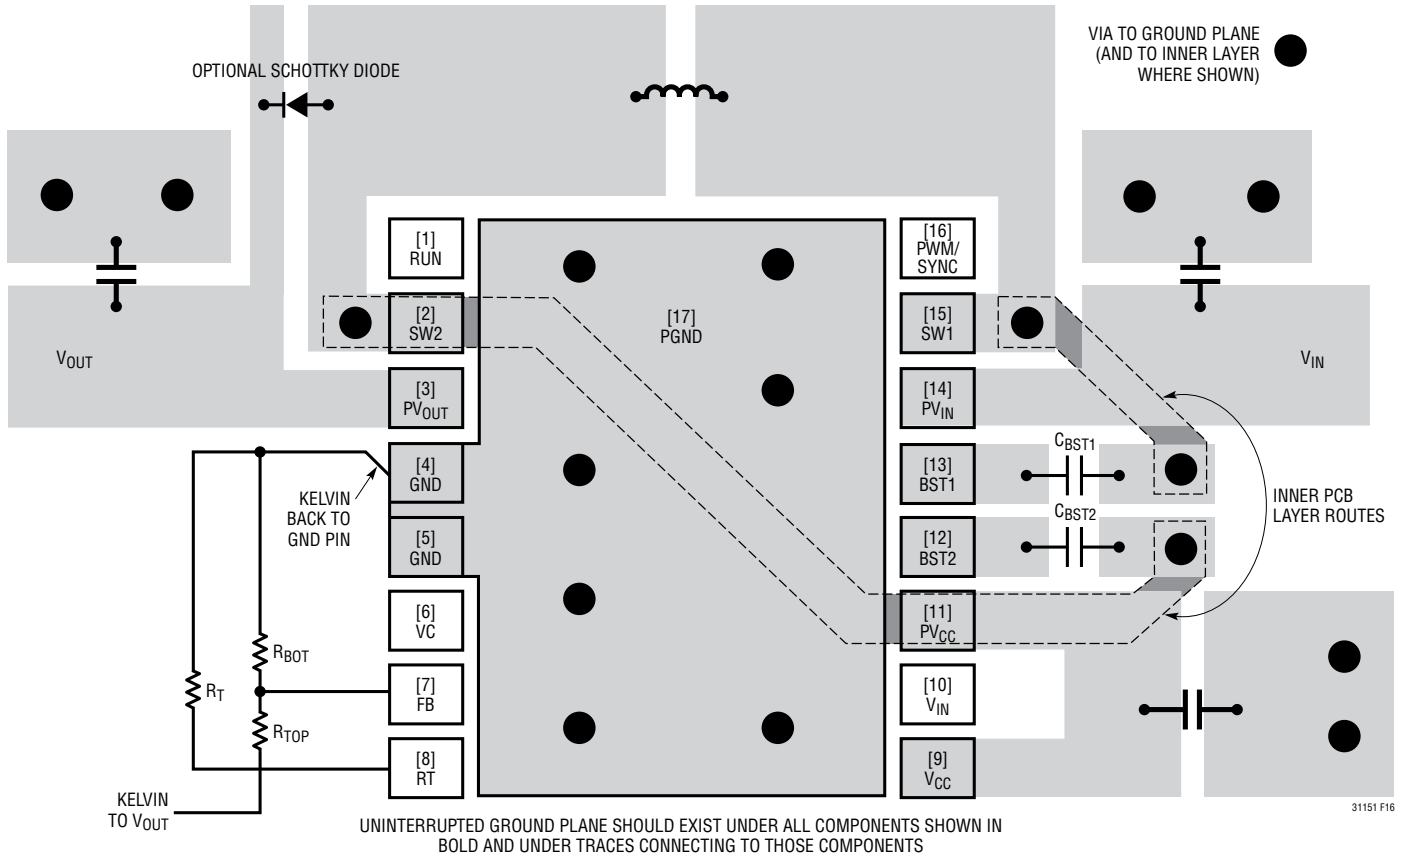

Figure 16. PCB Layout Recommended for the DHD Package
The LTC3115-1 buck-boost converter switches large currents at high frequencies. Special attention should be paid to the PC board layout to ensure a stable, noise-free and efficient application circuit. Figures 16 and 17 show a representative PCB layout for each package option to outline some of the primary considerations. A few key guidelines are provided below:
1. The parasitic inductance and resistance of all circulating high current paths should be minimized. This can be accomplished by keeping the routes to all bold components in Figures 16 and 17 as short and as wide as possible. Capacitor ground connections should via down to the ground plane by way of the shortest route possible. The bypass capacitors on PV_{IN} , PV_{OUT} and PV_{CC}/V_{CC} should be placed as close to the IC as possible and should have the shortest possible paths to ground.
5. To prevent large circulating currents in the ground plane from disrupting operation of the LTC3115-1, all small-signal grounds should return directly to GND by way of a dedicated Kelvin route. This includes the ground connection for the RT pin resistor, and the ground connection for the feedback network as shown in Figures 16 and 17.